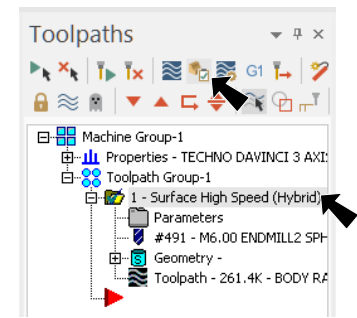

Fig. 22
Step 1. In the Toolpaths Manager, click the toolpath to select and click **Verify** , Fig. 22.